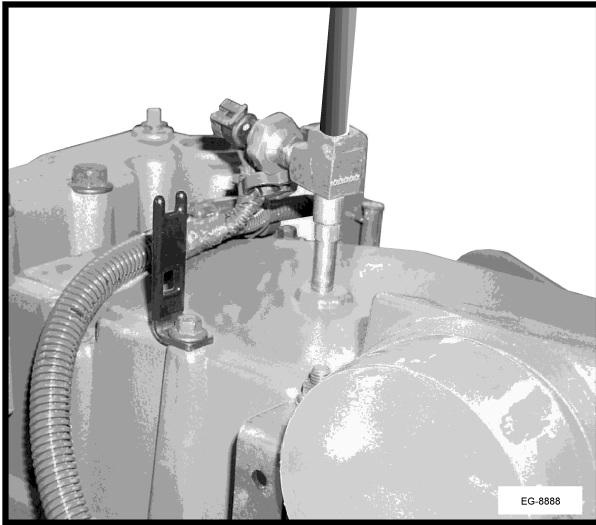

Figure 60 Boost Pressure Tap Location (Center of Intake Manifold / Valve Cover)
1. Remove plug from boost pipe, install adapter fitting, and connect a line as shown in Boost Pressure Tap Location (See Figure 60, page 118). If no plug is on the boost pipe, remove the Manifold Absolute Pressure sensor at intake manifold/valve cover. Install a Tee fitting and reinstall MAP sensor and the test line to the tee.